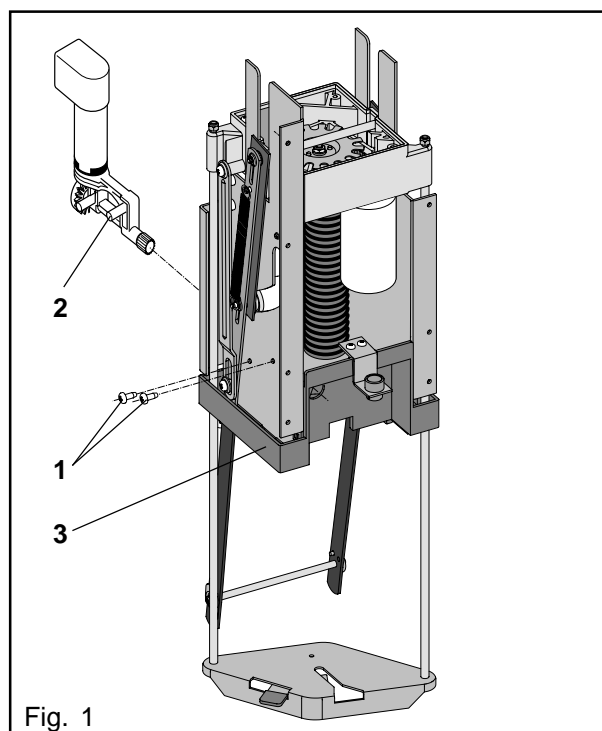

Fig. 1
- Remove the brewer housing (4). (Fig. 1)
- Remove the two screws (1). (Fig. 1)
- Pull the dosing motor (2) backwards. (Fig. 1)